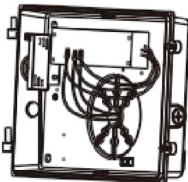

Fig. 7
9. Connect Line 1, Neutral and D wires to the power supply. (Fig. 7)